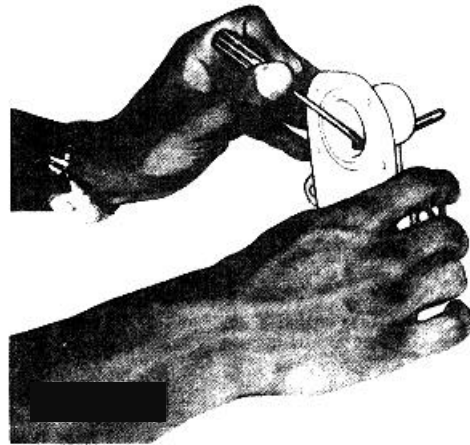

FIG. 27
21. Using a small screwdriver, push and pin the brushes in place; start pin from outside of housing. (A suitable pin can be made using drill rod material or a 1/32" diameter drill.) (Refer to Figure 27.)